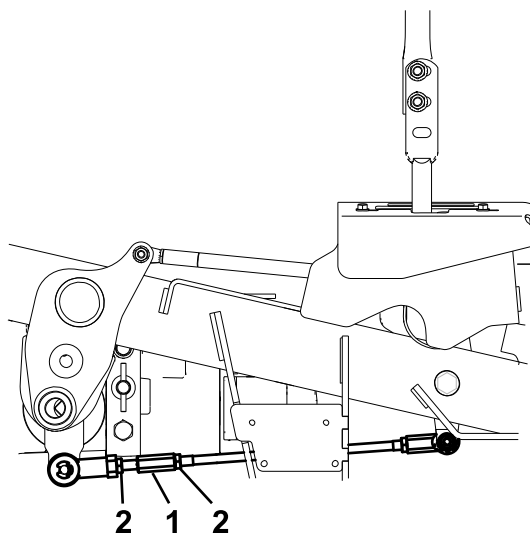

Figure 64
10. Adjust the pump control rod lengths by rotating the double nuts on the rod in the appropriate direction until the wheels slightly creep in reverse (Figure 64).